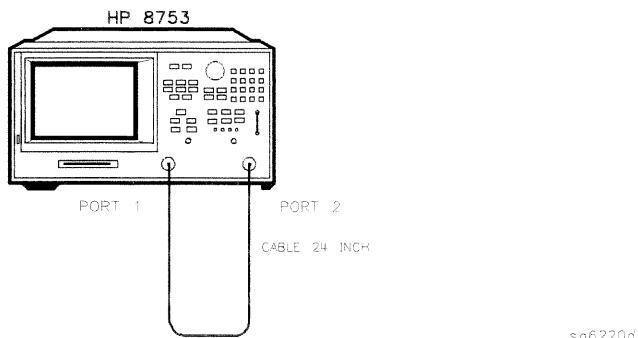

Figure 2-38. System Trace Noise Test Setup
1. Connect the equipment as shown in Figure 2-38.